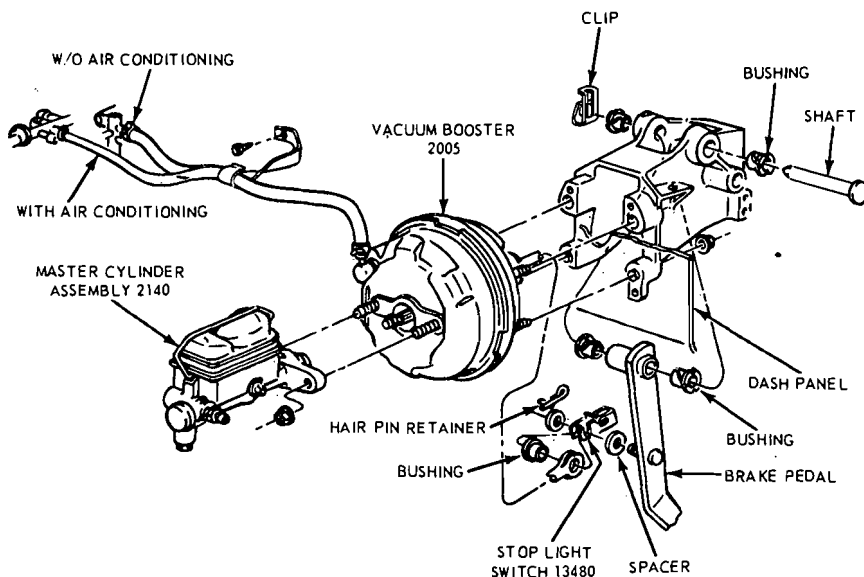

FIG. 13—Master Cylinder Installation—Power Brake—Ford, Mercury and Meteor
1. Remove the brake tubes from the primary and secondary outlet ports of the master cylinder (Figs. 13 thru 15).
2. Position the master cylinder assembly over the booster push rod and onto the two studs on the booster assembly (Figs. 13 thru 15).
Disconnect the stop light switch wires at the connector. Remove the hairpin retainer. Slide the stop light switch off from the brake pedal pin just far enough for the switch outer hole to clear the pin, and then remove the switch from the pin and booster push rod. Be careful not to damage the switch during removal. Slide the booster push rod and the nylon washers and bushing off the brake pedal pin (Figs 13 thru 15).
4. Remove the booster-to-dash panel attaching nuts or bolts (Figs. 13 thru 15). Remove the booster and bracket assembly from the dash panel, sliding the push rod link out from the engine side of the dash panel.
2. Mount the booster and bracket assembly to the dash panel by inserting the push rod or push rod link in through the hole and boot in the dash panel. Install the bracket-to-dash panel attaching lock nuts or bolts (Figs. 13 thru 15).
Install the inner nylon washer, the booster push rod, and the bushing on the brake pedal pin. Position the switch so that it straddles the push rod with the switch slot on the pedal pin and the switch outer hole just clearing the pin. Slide the switch completely onto the pin, and install the nylon washer as shown in Figs. 13 thru 15. **Be careful not to bend or deform the switch.** Secure these parts to the pin with the hairpin retainer. Connect the stop light switch wires to the connector, and install the wires in the retaining clip.